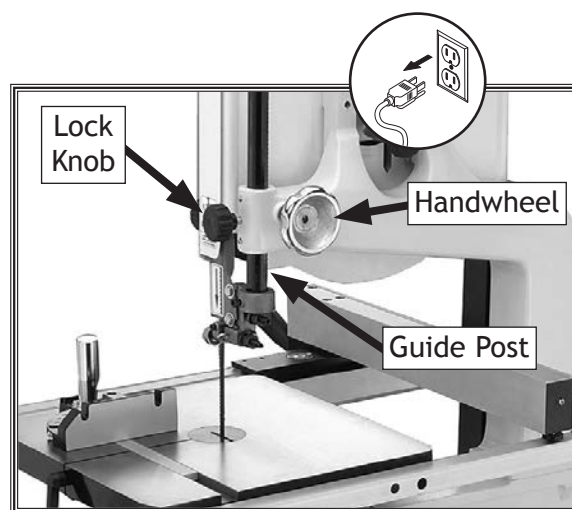

Figure 41. Guide post controls.
The guide post (see **Figure 41**) moves the blade guide assembly up or down. To cut accurately and safely, the bottom of the blade guide assembly must be no more than 1" above the workpiece during cutting operations—this positioning provides the greatest blade support and minimizes the length of moving blade that is exposed to the operator.
3. Loosen the guide post lock knob shown in **Figure 41**.